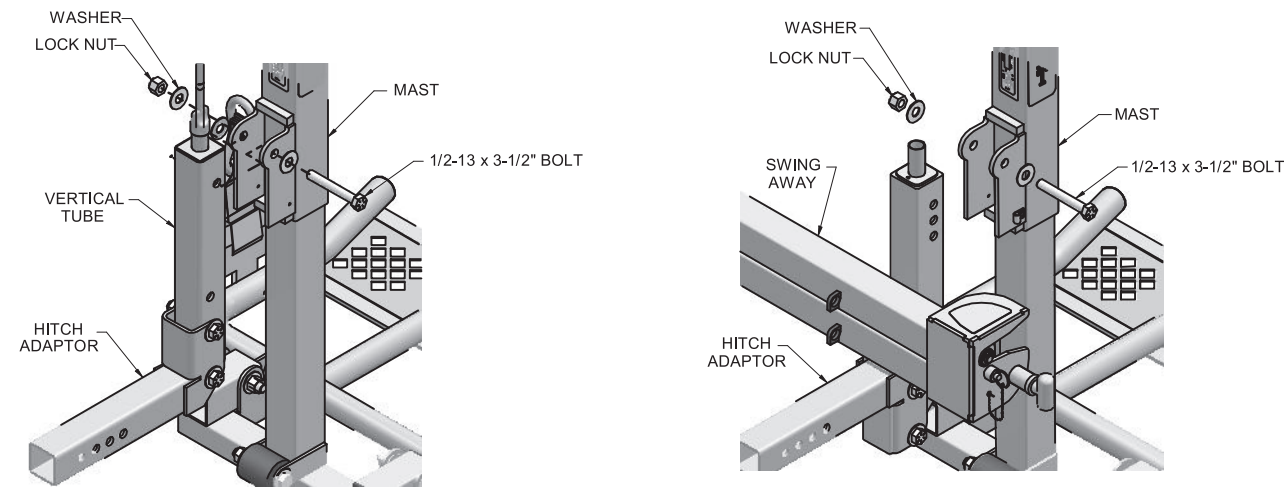

Fig. 6
Install the Mast and Platform assembly to the Vertical Tube, or Swing Away, using (1) 1/2-13 x 3-1/2" Bolt, 1/2" Washer and 1/2-13 Nylock Nut as shown in Fig. 6. This bolt should be securely tightened and still allow pivoting of the Mast on the Vertical Tube or Swing Away.